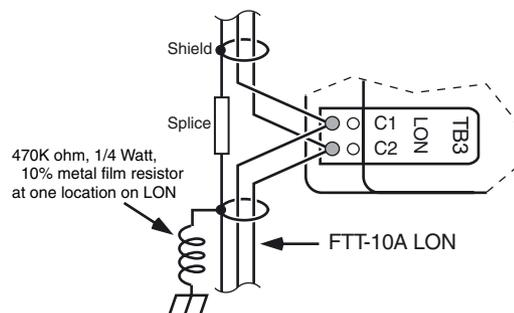

Figure 9. LON Connection
3. If a shielded cable is used, the shield should be connected to earth ground through a 470K ohm, 1/4 watt, $\leq 10\%$, metal film resistor at one location on the LON (see Figure 9).